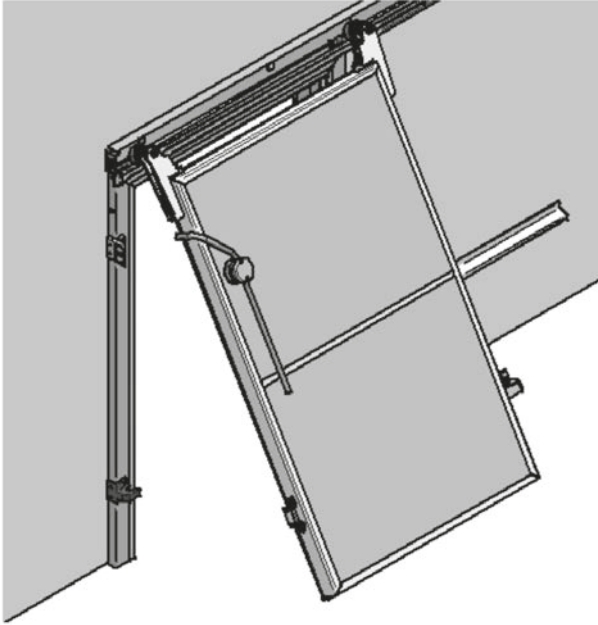

Fig. 6
- Insert the pulleys on the upper guide at the black polyethylene cradles (Fig. 6).